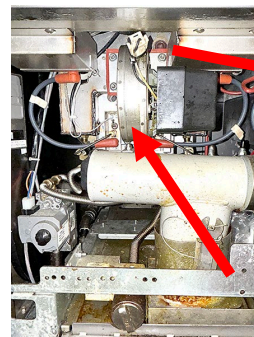

Figure 4
1. Open the doors of the fryer and locate the blower (see Figure 4).
- b. Photo of wide shot showing blower and drain area (see Figure 4).